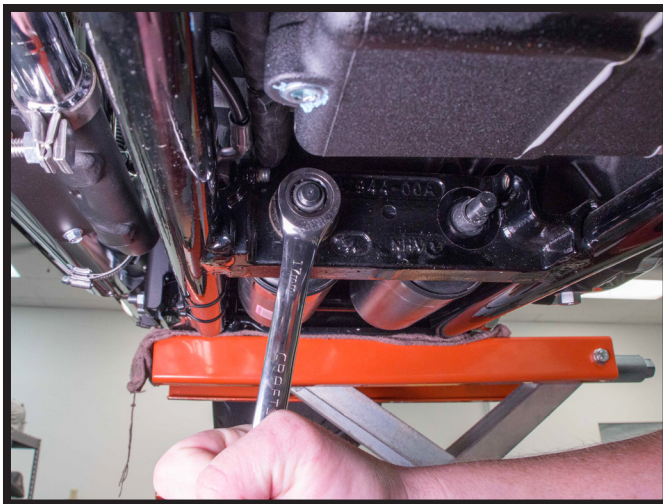

FIGURE 4
3. REMOVE THE TWO OE SHOCKS FROM UNDER THE BIKE, SAVING ALL OF THE MOUNTING HARDWARE AND BUSHINGS. (FIGURES 4, 5)